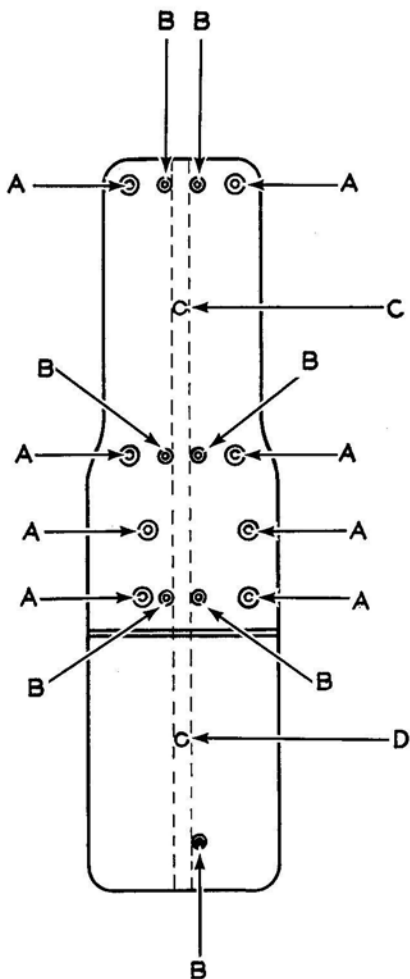

Figure 2. Backboard.
- (1) Place the backboard against the wall vertically (it is important that the backboard and paystation are perfectly upright).
- (2) Mark thru holes *B* onto the wall.
- (3) Drill holes in the wall where marked to take anchors, either Ackerman-Johnson or Rawl-Taper $\frac{1}{4}$ "-20.
- (4) Mount the anchors in the wall.
- (5) Push a loop of the interior wire thru backboard hole *C*.
- (6) Carry the rest of the interior wire down the channel at the rear of the backboard.
- (7) Push the end of the interior wire thru the hole in fig. 2 marked *D*.